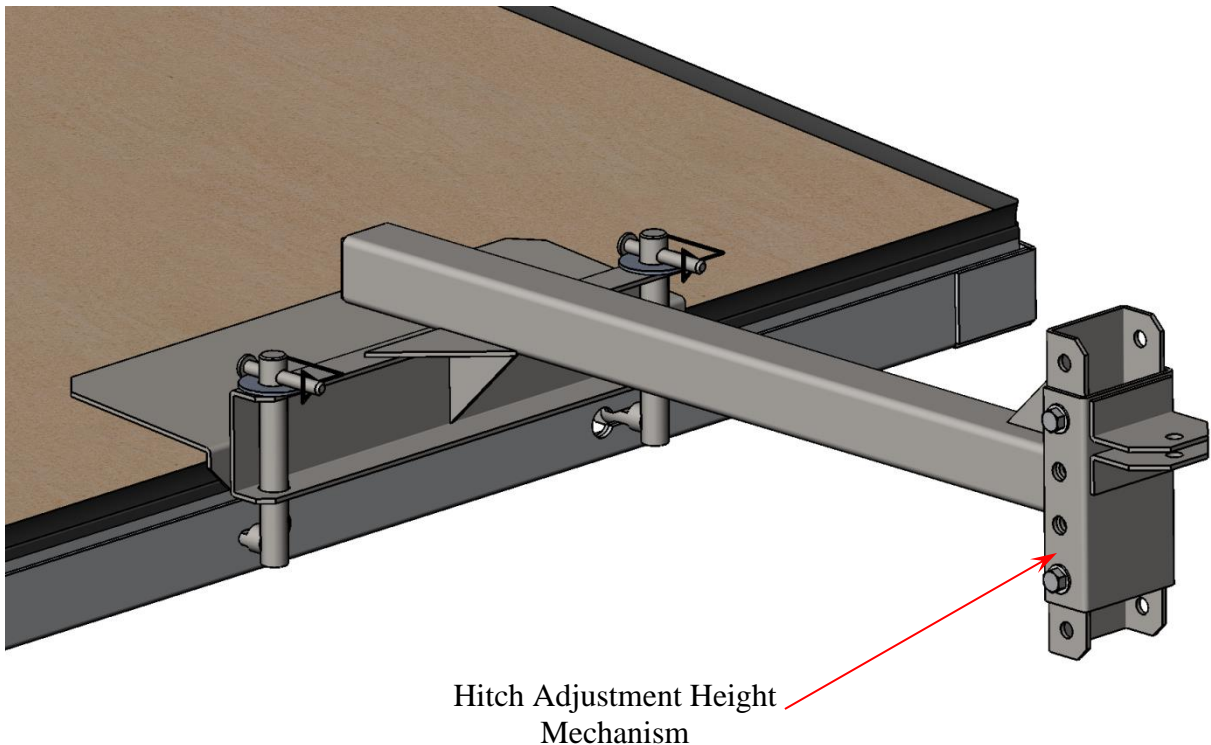

Figure 9
3. Due to a variety of commercial maintenance vehicles, the Center Section Hitch has an adjustable height mechanism that can be adjusted to the vehicles hitch point (*figure 9*). Adjust the Center Section Hitch mechanism so when attached to the vehicle the front side of the center section has about 3" to 4" of clearance when attached to the pulling vehicle.